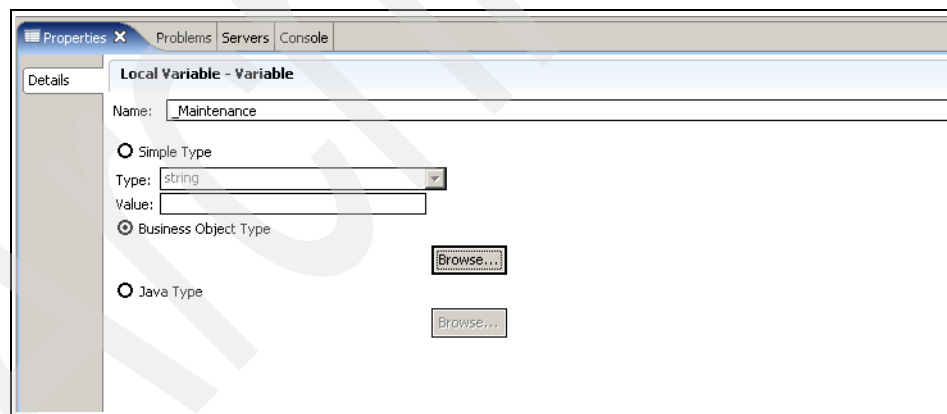

Figure 2-22 Rename variable
3. Click the new variable and give it a name (we chose `_Maintenance`, as it is essentially a holding area for our maintenance data) on the Properties tab and select **Business Object Type** of Maintenance (Figure 2-22).